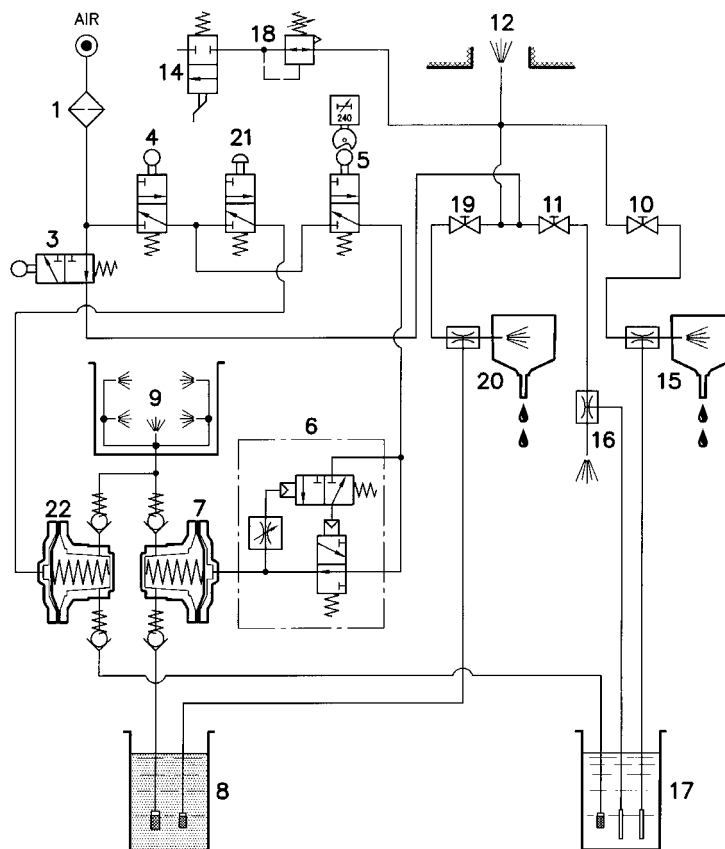

Figure 5
9.1 FONCTIONNEMENT (Cf. fig. 5).